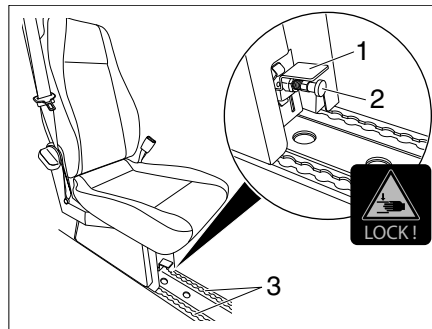

Fig. 20 Installing and removing the single seat
- Pull the locking lever (Fig. 20,1) up.
- Lift the single seat into the rail (Fig. 20,3).
- Pull the locking bolt (Fig. 20,2) and press the locking lever (Fig. 20,1) down.
- Push the locking bolt (Fig. 20,2) under the single seat slightly downwards and pull. The lock releases itself.
- Move the single seat (Fig. 20,2) and press the locking lever (Fig. 20,1) down. The single seat is locked.